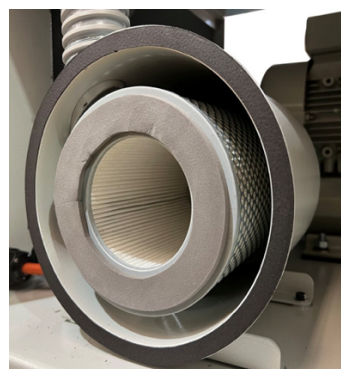

Figure 11-2
4. Remove the filter cartridge from the filter housing (see Figure 11-2).